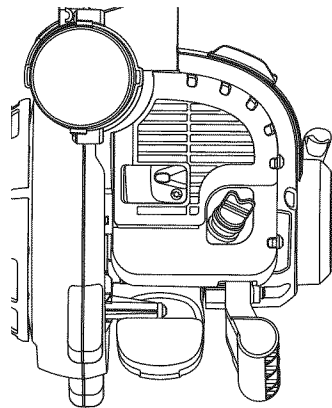

Fig. 16
2. Place the engine on a level surface (Fig. 16).